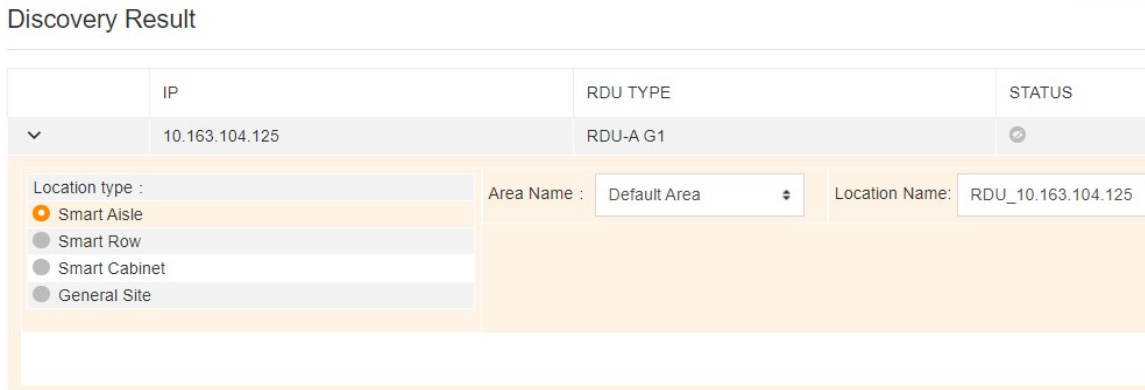

Figure 6-6 Search result
3. After the search is completed, the **SEARCH** button becomes available. The list of discovered RDUs is displayed on the **Discovery Result** page, as shown in Figure 6-6. The search results include: The RDU is added to the monitoring